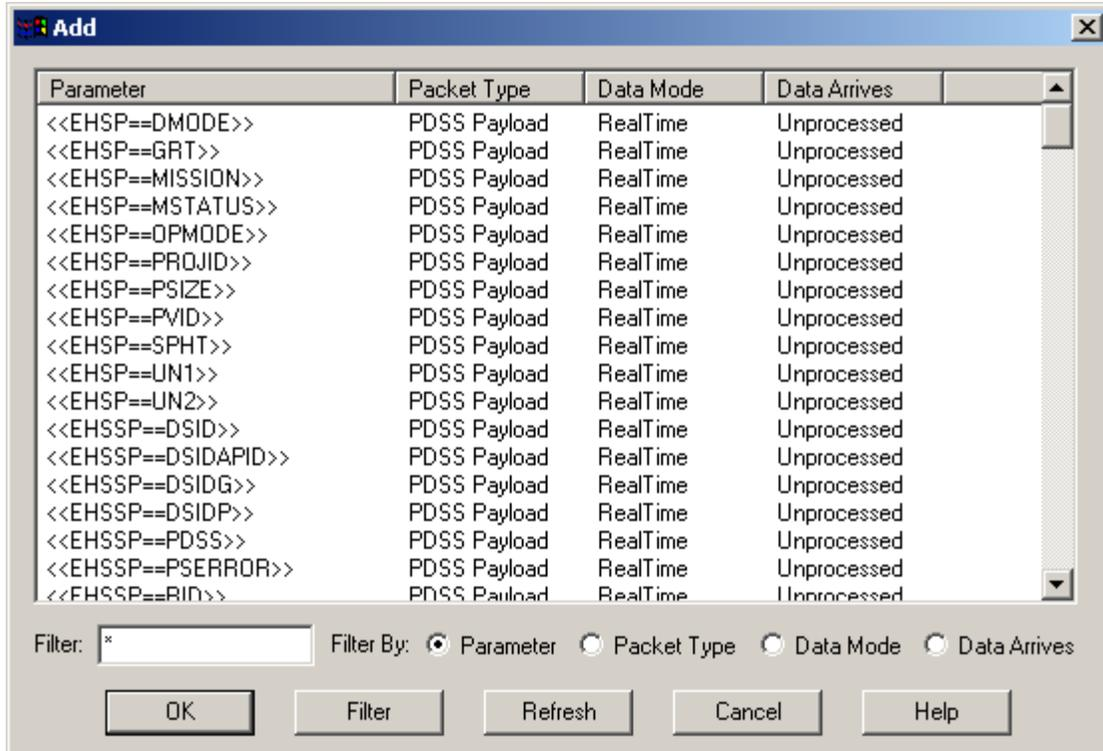

Figure 29 Add (Parameter) Dialog
6. Now we need to add some parameters to the parameter list. We will use the Add button to display a list of parameters. From this dialog we can select the parameters that should appear on the display. Push the **Add** button. The Add Parameter dialog shown in Figure 29 will be displayed.